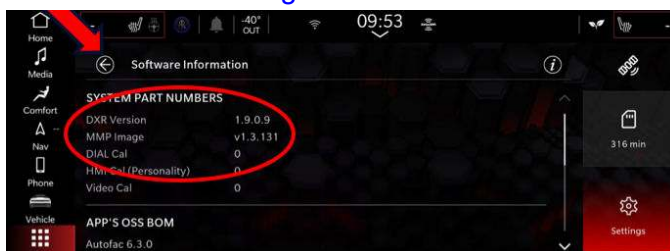

Fig. 6
- Check if the software version is above 1.4.160 Fig. 6.